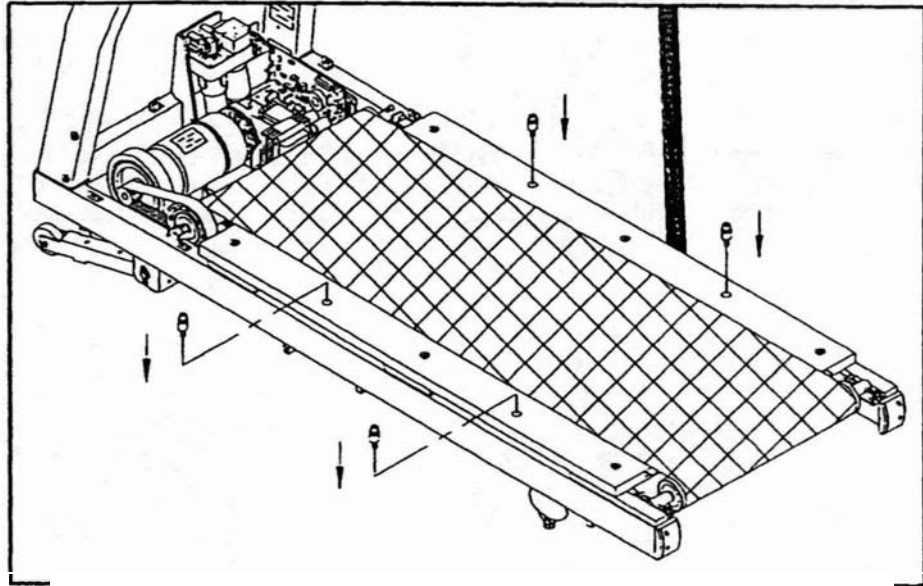

Fig. 10
4. Tighten four screws with bushings. (see Fig. 10)